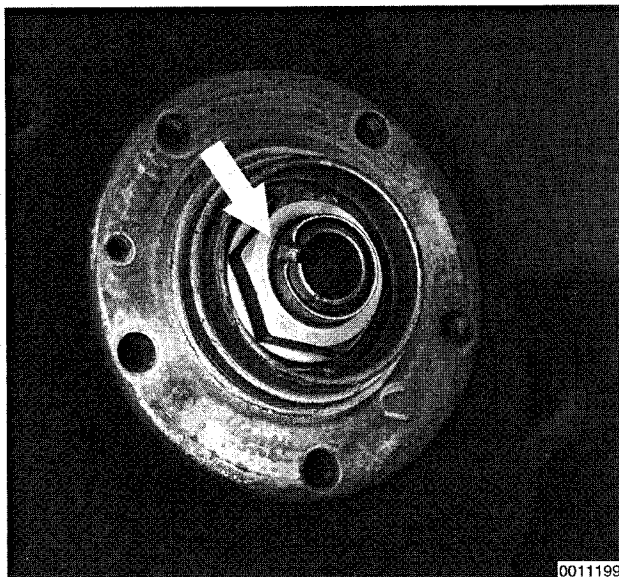

Fig. 13. Staked part of wheel hub collar nut to be bent back (arrow).
2. Pry off dust cap from center of wheel hub. Bend back staked part of wheel hub (axle) collar nut. See Fig. 13.